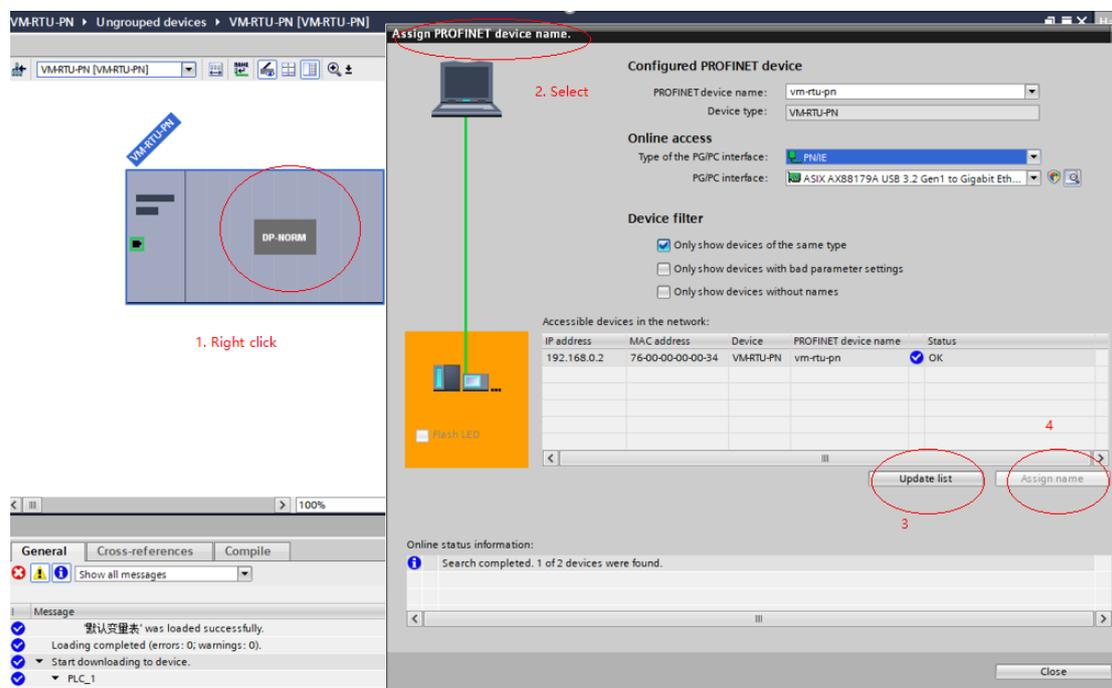

Figure 8 Assign names
2. Right-click coupler and select "Assign PROFINET device name" and "Update List", when it is used for the first time, the IP address and device name of coupler are blank, select the device that needs to be assigned a name and click "Assign name". As shown in Figure 8